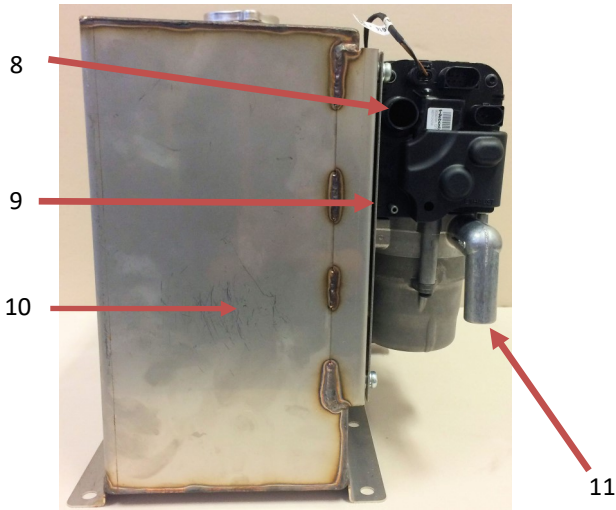

Fig 6 – Exhaust and Fuel Connection
- 4.1 Connect the combustion air tube (Fig. 7) to the heater (Fig. 6) utilising the 25mm clamp.
5.1 Install the stainless steel exhaust pipe using the 25mm exhaust clamps (as supplied) to the exhaust gas outlet (Fig. 6) (5). Webasto can supply exhaust lagging if required.